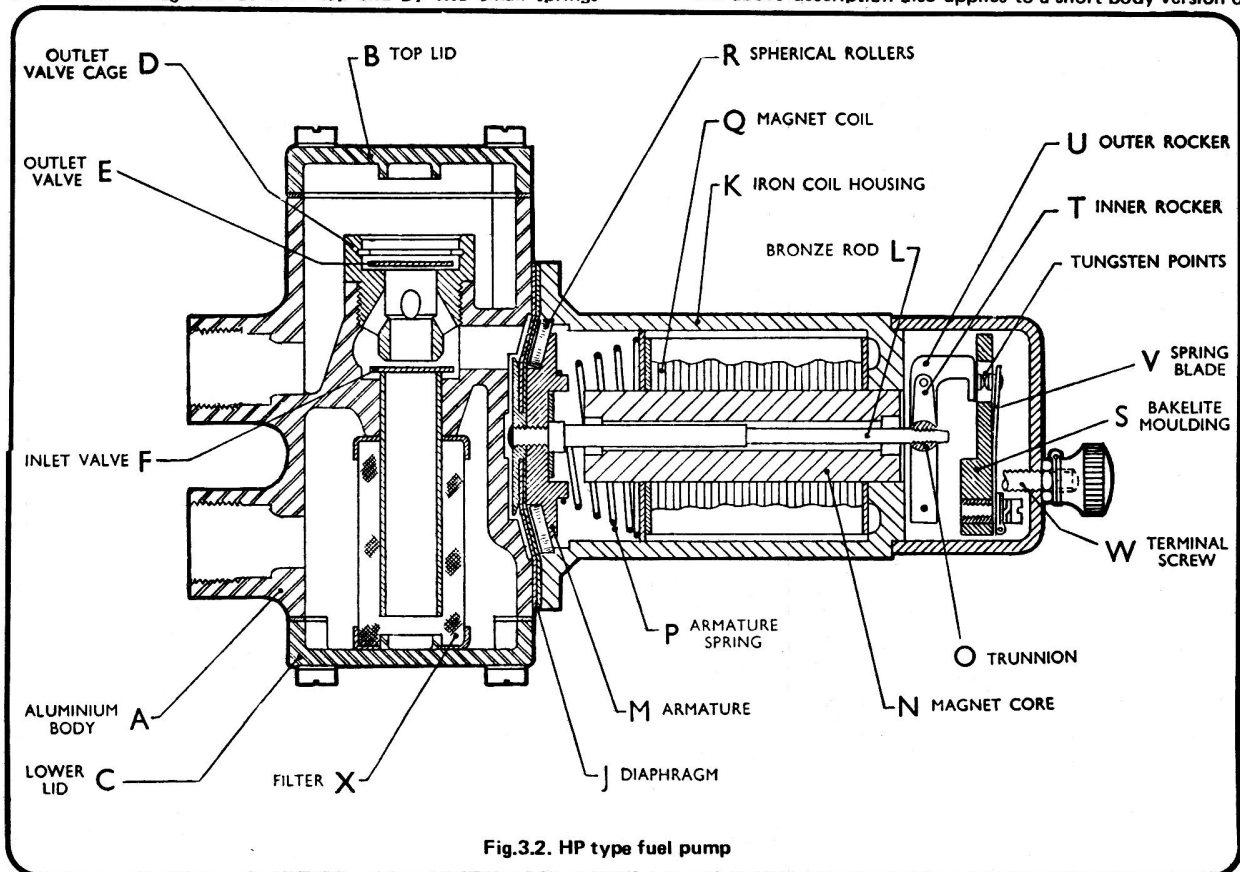
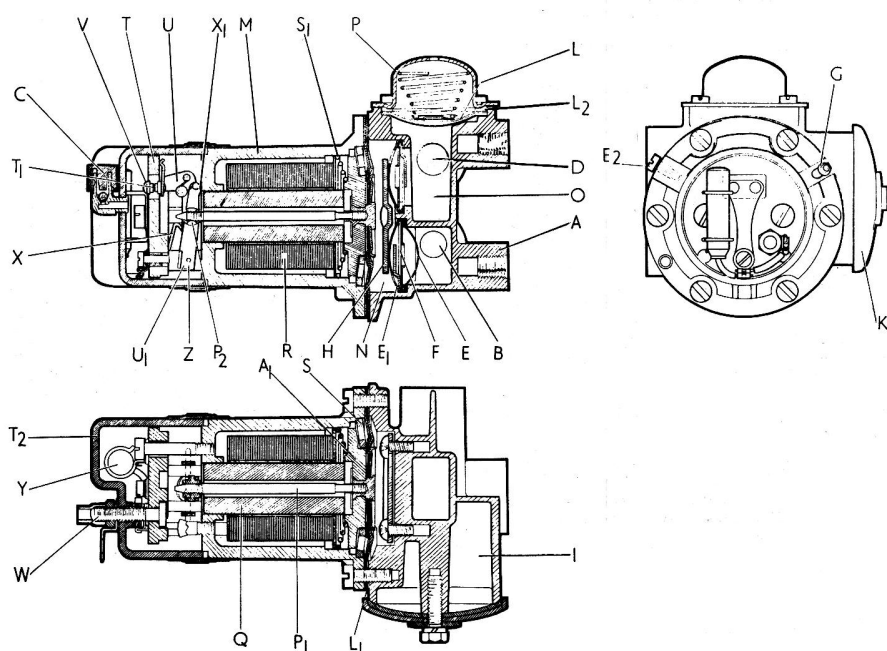

Fig.3.2. HP type fuel pump
Fig.3.3. The AUF fuel pump (AUF 301 illustrated)
A sectioned view of the type of fuel pump fitted to early model cars is given in Fig.3.2. The pump consists of three main assemblies - the body, the magnet assembly (sometimes referred to as the coil housing assembly) and the contact breaker.
pump which was introduced for later Mk 2 models. The coil housing of this pump is approximately $2\frac{1}{4}$ " in length compared to $2\frac{1}{2}$ " of the earlier type. However, the above pumps were superseded by the AUF. 301 (late model Mk 2 and 3.8 litre cars) and by the AUF .303 as fitted to 240 and 340 models but which may also be found on the other range of cars. These pumps differ considerably from the pump described above as will be seen from the sectioned drawing (of the AUF.301) which is shown at Fig.3.3. This pump also comprises three main assemblies: the main body casting "A", the diaphragm armature and magnet assembly "M" contained within the housing, and the contact breaker assembly housed within the end cap "T2". A non-return valve assembly "C" is fixed to the end cover moulding to aid the circulation of air through the contact breaker chamber. The main fuel inlet "B" is maintained in communication with an inlet air bottle "I".
Communication with the main pumping chamber "N" is provided by an inlet valve assembly, this assembly comprises a Melinex valve disc "F" permanently assembled within a pressed steel cage, which, in turn is held in place by a valve cover "E1", while the outlet from the pumping chamber is provided with an identical valve assembly reversed in direction. Inlet and outlet valve assemblies and filters are held in position by a clamp plate "H", both valve assemblies may be removed by detachment of the clamp plate after removing the self tapping screws shown on the lower diagram in Fig.3.3. A filter "E" is provided upstream of the inlet valve assembly. The delivery chamber "O" is bounded by a flexible plastic spring loaded diaphragm "L" contained by the vented cover "P". The rubber sealing ring "L2" seals the diaphragm "L".
- 2 Refer to Figs. 3.2 and 3.3.
- 5 Mark the relative position of the coil housing and the body. Remove the six set screws which secure the coil housing and body and separate them. The edges of the diaphragm are now free and the spherical rollers, "R" in Fig.3.2 and "S" in Fig.3.3 should be removed.
- 9 Push out the rocker spindle pin ("Z" in Fig.3.3) to release the rocker assembly which cannot be dismantled any further. DO NOT remove the toggle springs.
- 4 Fit the impact washer over the diaphragm rod to enter the recess in the armature, "M" in Fig.3.2 and "AI" in Fig.3.3. Fit the large diameter of the armature spring into the coil housing. Enter the thread of the diaphragm rod into the trunnion, "O" in Fig.3.2 and "P2" in Fig.3.3. Turn the diaphragm clockwise until the rocker will just not throw over.